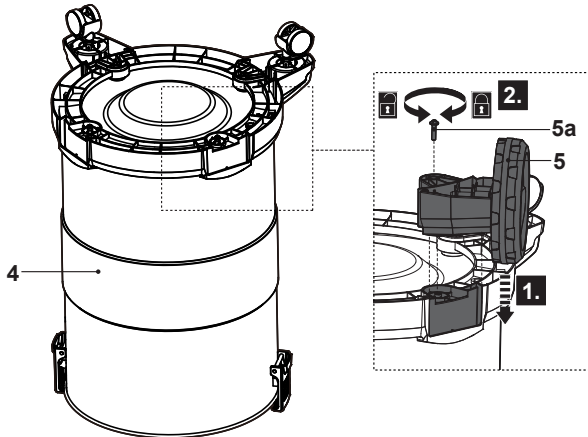

Fig. 3
- > Align and slide the rear wheels (5) onto the supports. The rear wheels and the vacuum base are marked with the numbers 1 and 2. Insert wheel 1 into slot 1 on the back of the vacuum; insert wheel 2 into slot 2 on the back of the vacuum. Secure the connection with the screws (5a), using a suitable crosshead screwdriver (Fig. 3 & 4).
- > Turn the assembled main body with the castors (7) and rear wheels (5) right way up and place it on a flat, stable surface. Ensure that castors rotate smoothly.